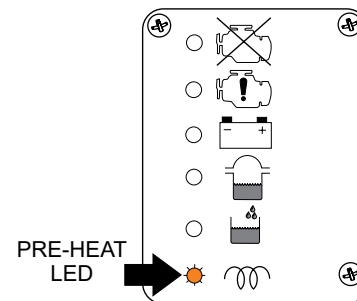

Figure 41. Pre-Heat LED Engine Warning Unit
- Depending on the temperature of the coolant (cold weather conditions), the pre-heat LED (Figure 41) will light **(ON)** and remain on until the pre-heating cycle has been completed. After completion of the pre-heating cycle, the LED will go **OFF** and the engine will start.